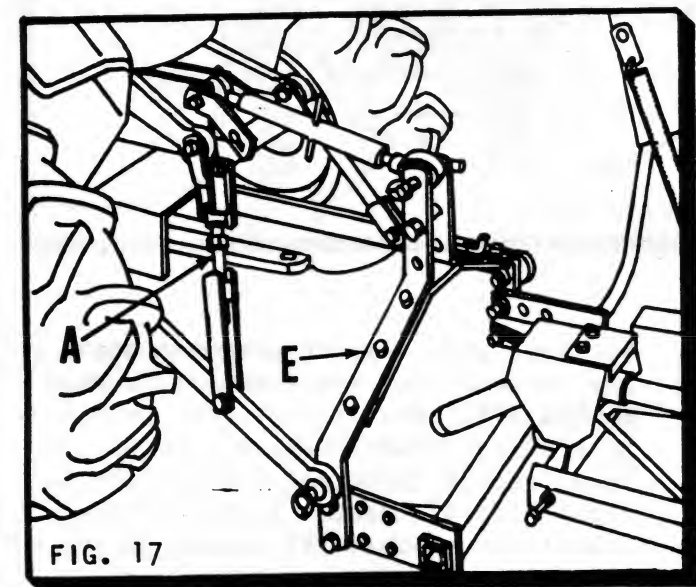

FIG. 17
2. Adjust third member of tractor three point hitch until three point mast (E) of sickle bar is 90° to ground. (Fig. 17)